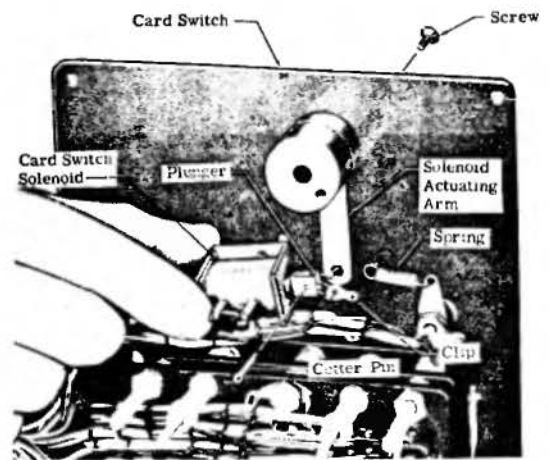

Figure 19 - Replacing Card Switch Solenoid
2. Insert two .125 inch diameter (1/8 inch diameter) pins or drill shanks into the switch plate holes A-1 and L-1 to retain the code card. (See figure 19).
plate holes when the micro switch actuates (an audible CLICK will be heard). If adjustment is necessary, turn the adjustment screw. (See figure 19) until alignment is correct.
6. 26 Replacement of Card Switch Solenoid. (See Figure 19). Unsolder leads to terminals on solenoid. Disengage spring from clip on plunger and remove cotter pin and clip. Remove screws from face of panel and disengage solenoid from solenoid actuating arm. Install new solenoid and reconnect associated parts in the reverse order of removal.